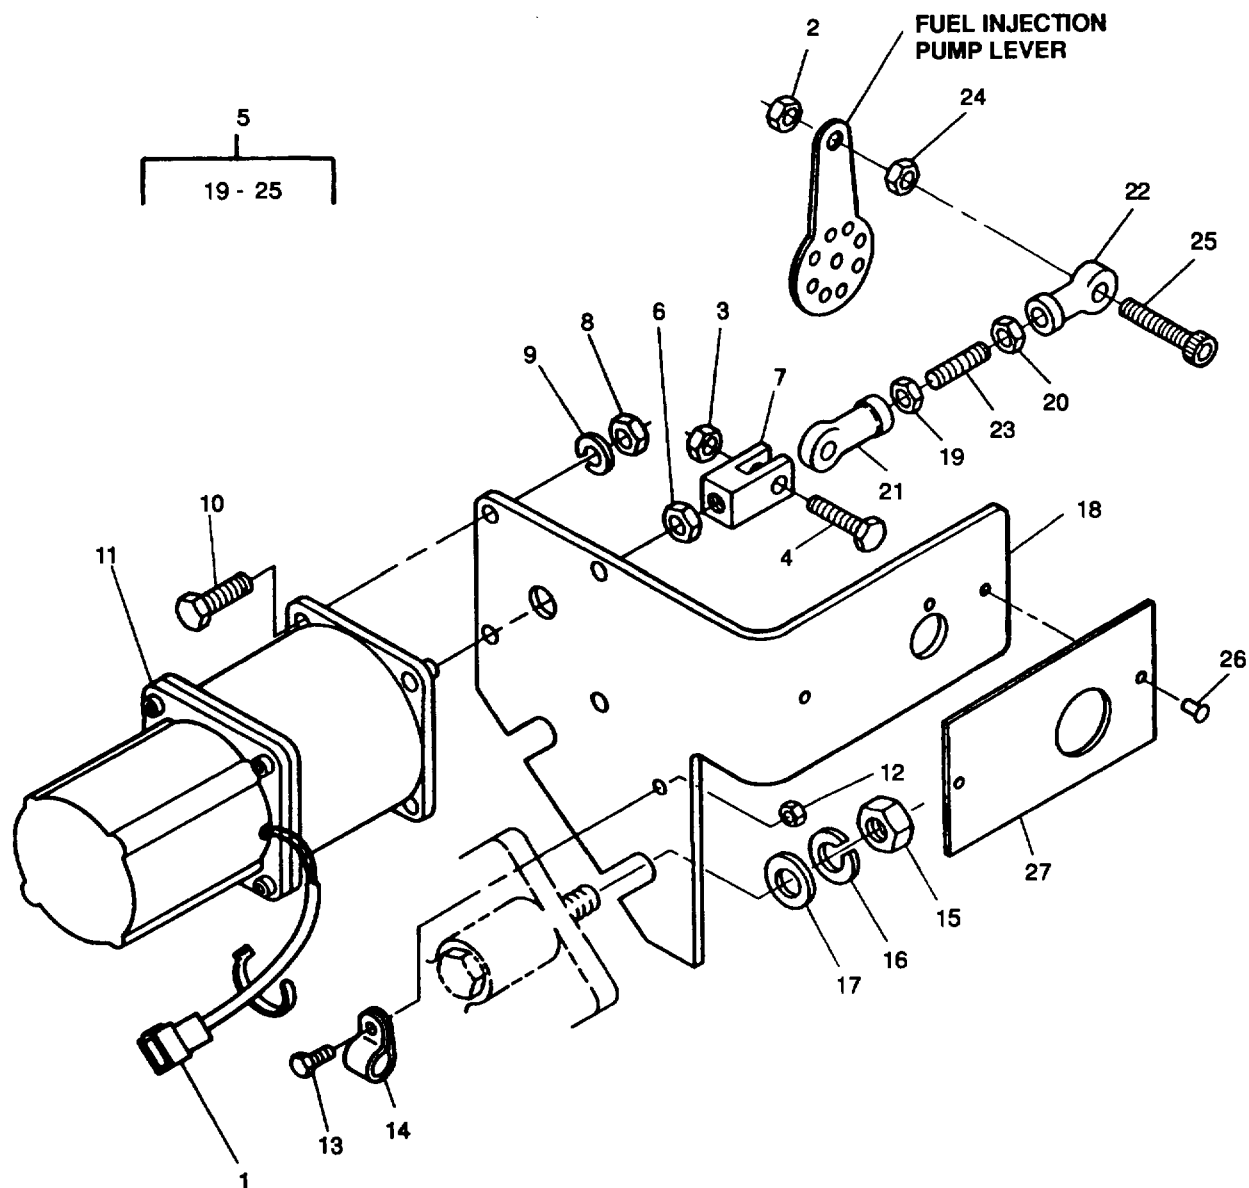
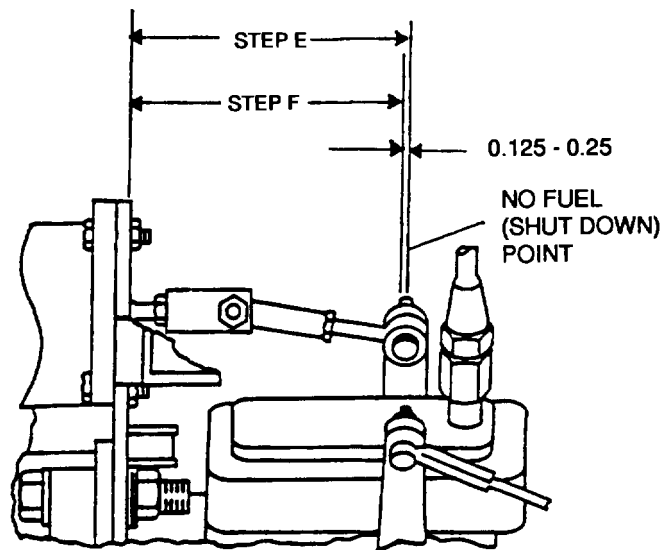

FIGURE 4-8. Governor Actuator Assembly
FIGURE 4-9. Governor Actuator Adjustment
- c. Open left side engine access doors and disconnect connector (1, FIGURE 4-8) from engine electrical harness.
- d. Connect 5 ohm, 25 watt resistor in series with pin 2 of connector (1) and ground.
- e. Connect jumper wire from pin 1 of connector (1) to battery positive terminal (24 VDC).
- f. Connect negative battery cable. Governor actuator (11) shaft should extend to full fuel position.
- i. Remove resistor and jumper wire from connector (1), ground, and battery.
- j. Connect connector (1) to engine electrical harness and close left side engine access doors.
- d. Tag and disconnect connector (1, FIGURE 4-8) from electrical harness.
- e. Remove nuts (2) and (3), bolt (4), and rod assembly (5) from fuel injection pump lever and device (7).
- a. If disassembled, screw rod ends (21 and 22, FIGURE 4-8) onto rod (23) the same number of turns noted on disassembly, and tighten nuts (19) and (20) finger tight only.
- b. If removed, install bolt (25) and nut (24) into rod end (22).
- c. If removed, install identification plate (27) on bracket (18) with pop rivets (26).
- d. Install mounting bracket (18) on front cover mounting bolts with washers (17), lockwashers (16), and nuts (15).
- e. Secure electrical wiring to mounting bracket (18) with damp (14), bolt (13), and nut (12).
- f. Install governor actuator (11) on mounting bracket (18) with bolts (10), lockwashers (9), and nuts (8).
- g. Screw devis (7) on governor actuator shaft the same number of turns noted on disassembly, and tighten nut (6) finger tight only.
- h. Install rod assembly (5) on injection pump lever and clevis (7) with bolt (4) and nuts (2) and (3).
- j. Connect connector (1) to engine harness and remove tag.
- a. Tag and disconnect connector (1, FIGURE 4-8) from engine harness.
- b. Remove nut (2) and disconnect rod assembly (5).
- f. Mark position of fuel injection pump lever on engine block at exact no fuel (shut down) point. Measure injection pump lever center line position to mounting surface of actuator. Refer to FIGURE 4-9.
- g. Adjust rod assembly (5) and devis (7) as necessary so that center line of fuel injection pump lever when connected and measured as in step f., will be positioned past the no fuel point by 0.125 to 0.25 inch (3.17 to 6.35 mm). Tighten nuts (6), (19), and (20).
- h. Install rod assembly (5) on fuel injection pump lever with nut (2).
- i. Connect connector (1) to engine harness.